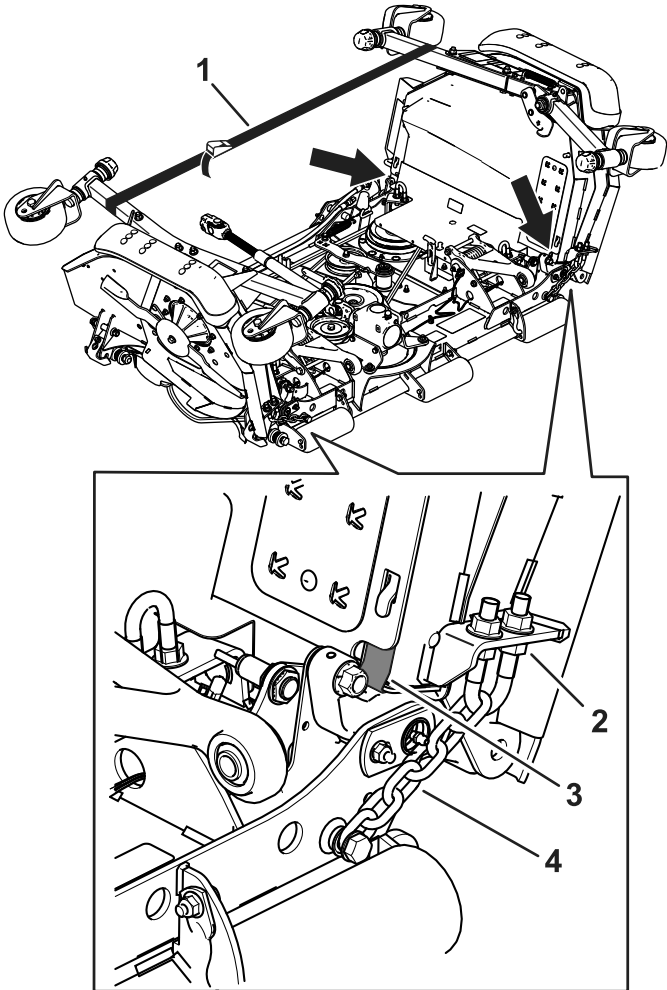

Figure 4
- Loosen the strap used for shipping. Allow enough room to put in the shims (Figure 4).
- Tighten the chains on the front and back of the mower deck (Figure 4).